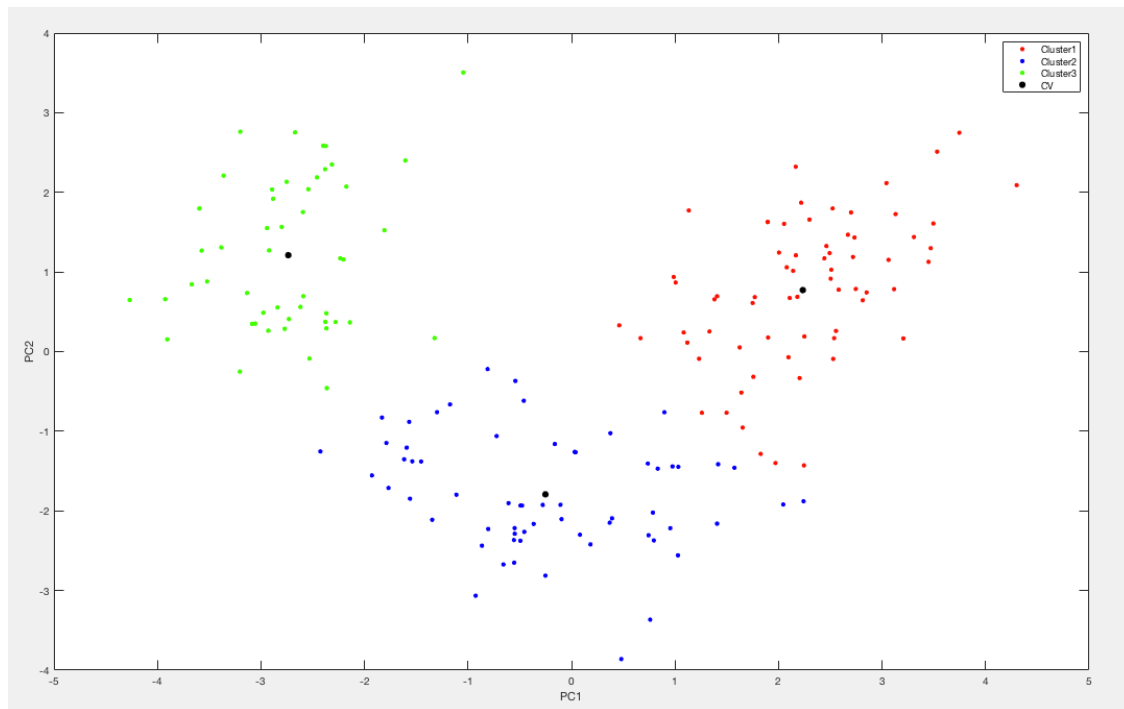

Figure 11 – Projection of data points and code vectors based on k-means, K=3
% Open Figure 11
Interpretation of above figures 11,12 - After executing the K-means algorithm for K values 3 and 5 respectively, we get 3 and 5 cluster memberships as well as their centroid/center points/code-vectors (CV). PCA gives us the eigen vector to transform and view original data in the PC coordinate system. Using these eigen vectors we can project the data points and their centroids on PC1 PC2.
Comparing Figure 1 and Figure 11, it can be asserted that few of the given samples of class 2 cultivator might actually belong to class 1 and 3.